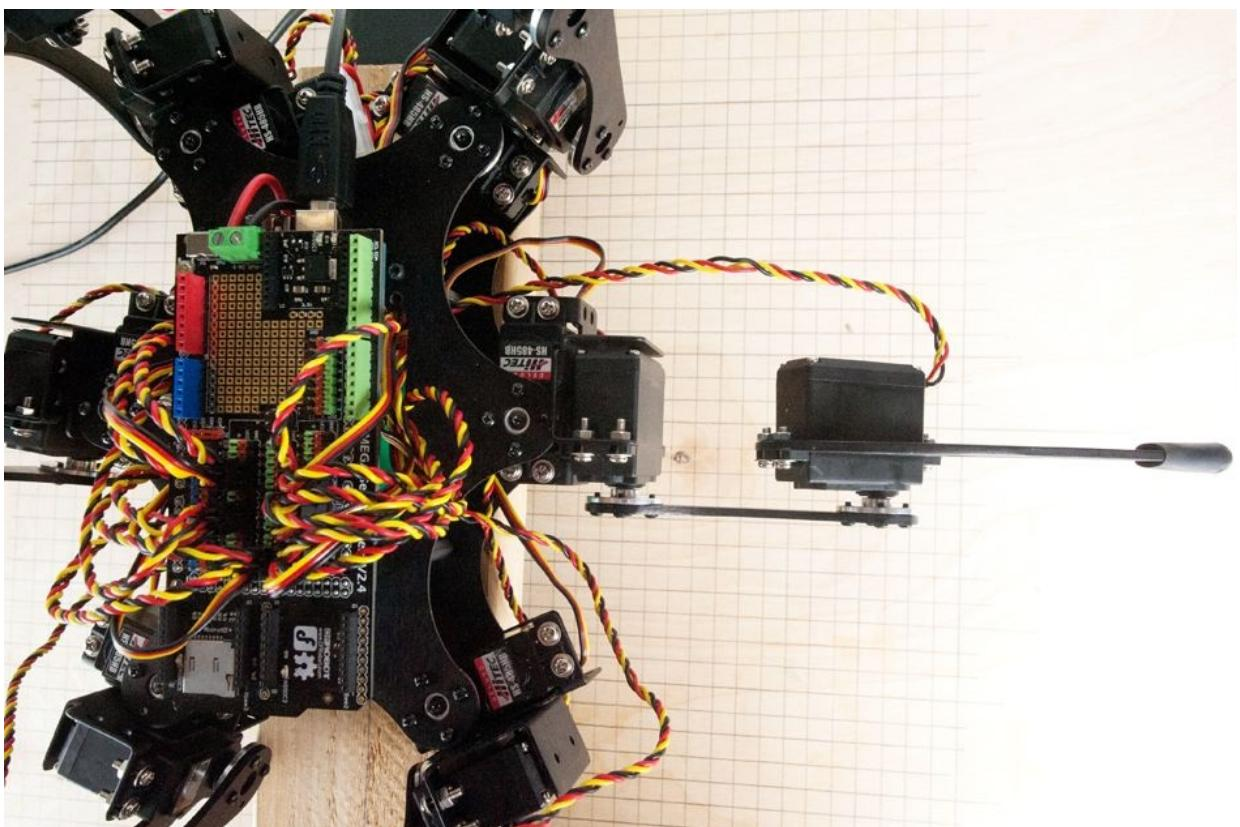

Figure 5-10. Trimmed coxa
1. Looking down at the robot from above (Figure 5-10), the coxa and femur should be at a right angle to the robot (parallel to the x axis on the coordinate grid). If you are using the test stand with a coordinate grid drawn upon it, this should be pretty easy to see. If the L2C servo needs to rotate clockwise, you will increase the angle from 90. To rotate counterclockwise, decrease the angle. Try incrementing a few degrees at a time and narrow your value down to the best fit. Don't bother with fractions of a degree, Johnny-Five only sends integer values to the servos: